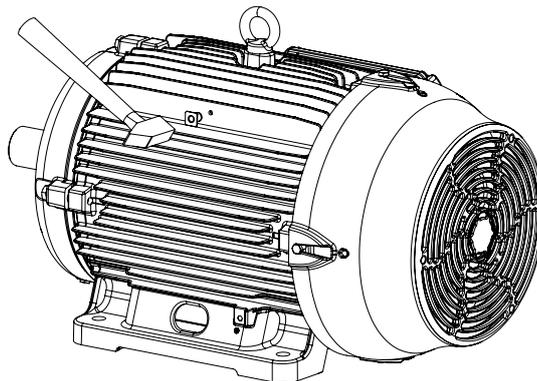

Figure 5.1: Detail of the insertion of the knurled bushing.
3. Using a hammer, insert the knurled bushing into the hole until the flange touches the motor fin, as shown in Figure 5.1